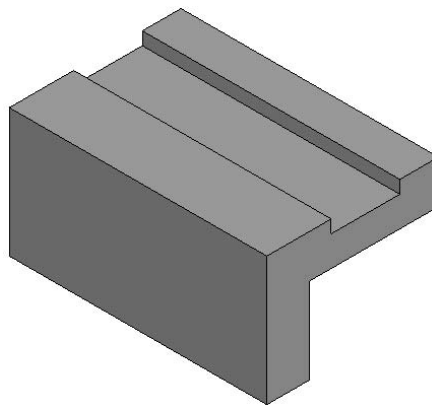

Figure 5-50 Base feature of the model
7. Choose **Finish** from the command bar. The base feature of the model is shown in Figure 5-50.